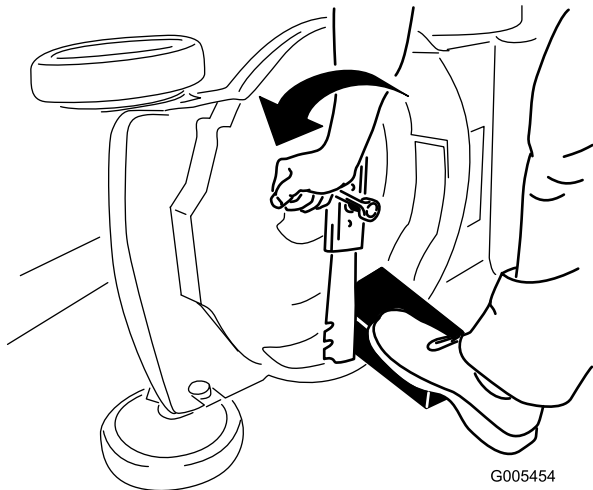

Figure 33
3. Use a block of wood (not included) to hold the blade steady (Figure 33).
4. Remove the blade, saving all mounting hardware (Figure 33).